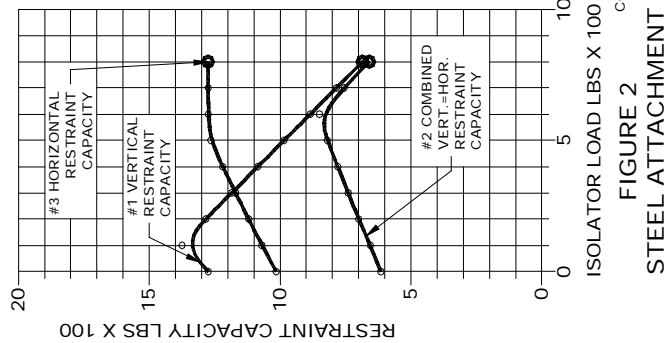
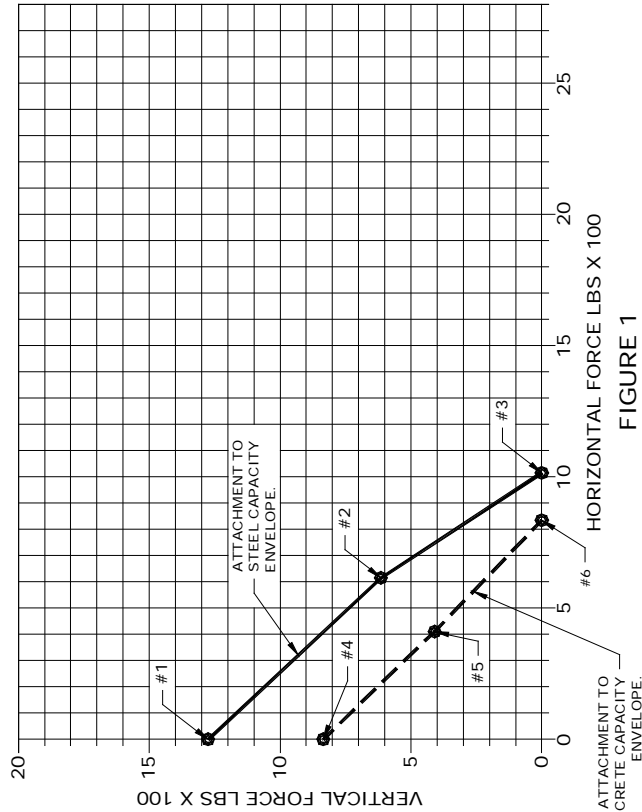
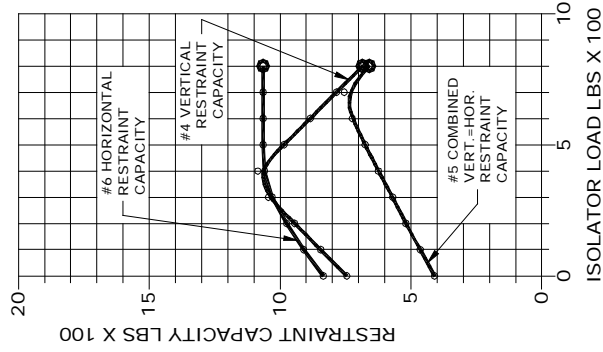

FIGURE 2
FIGURE 1
FIGURE 3
- 2.) DETERMINE WHETHER THE ATTACHMENT IS TO BE TO STEEL, SELECT FIGURE 2, OR CONCRETE, SELECT FIGURE 3.
- 3.) THE VERTICAL RESTRAINT CAPACITY @ THE LOAD DETERMINED IN STEP 1 IS READ FROM CURVE #1 (FIG. 2) OR CURVE #4 (FIG. 3) AND PLOTTED ON THE VERTICAL AXIS OF FIGURE 1.
- 4.) THE HORIZONTAL RESTRAINT CAPACITY @ THE LOAD DETERMINED IN STEP 1 IS READ FROM CURVE #3 (FIG. 2) OR CURVE #6 (FIG. 3) AND PLOTTED ON THE HORIZONTAL AXIS OF FIGURE 1.
- 5.) THE COMBINED RESTRAINT CAPACITY IS THE POINT WHERE VERTICAL & HORIZONTAL CAPACITIES ARE EQUAL. THE COMBINED RESTRAINT CAPACITY @ THE LOAD DETERMINED IN STEP 1 IS READ FROM CURVE #2 (FIG. 2) OR CURVE #5 (FIG. 3). DRAW A HORIZONTAL LINE FROM THIS VALUE ON THE VERTICAL AXIS, AND A VERTICAL LINE FROM THIS VALUE ON THE HORIZONTAL AXIS. THE INTERSECTION POINT IS THE COMBINED CAPACITY POINT FOR THE GIVEN APPLICATION.